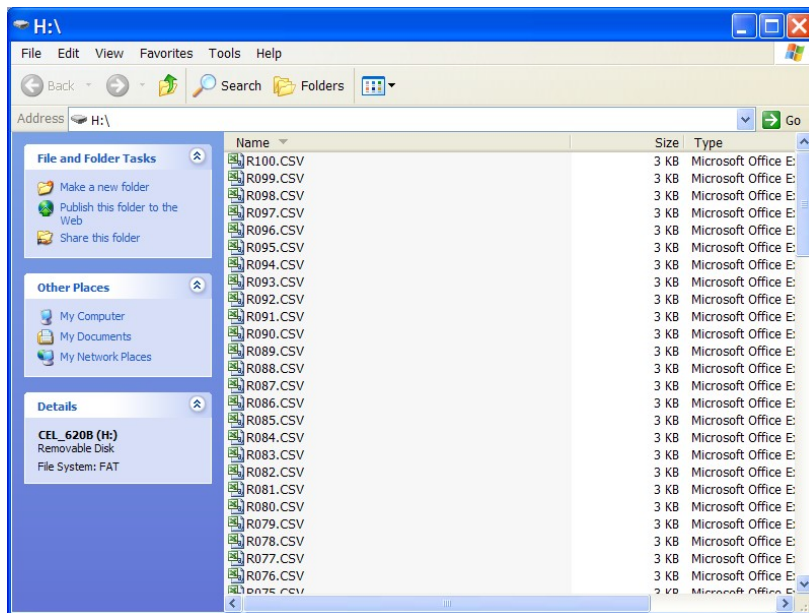

Figure 16 Measurement Data Files
**L. EXTRACTING DATA (Refer to Figure 16)**